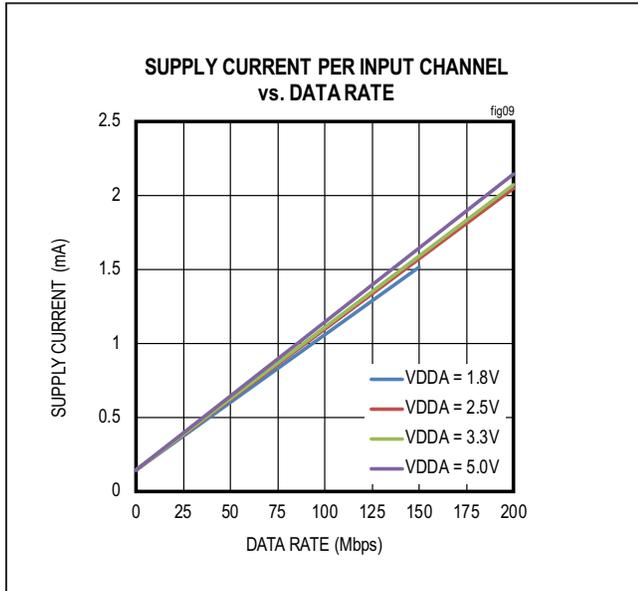
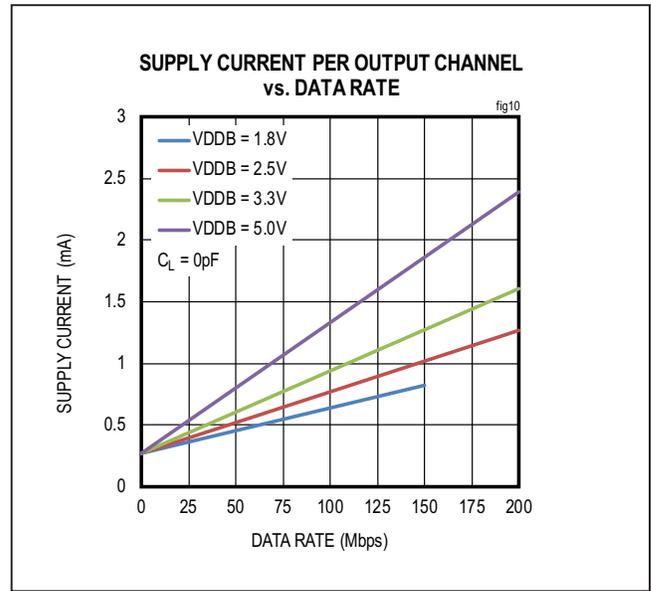

Figure 9. Supply Current Per Input Channel (Estimated)
Figure 10. Supply Current Per Output Channel (Estimated)
The required current for a given supply (VDDA or VDDB) can be estimated by summing the current required for each channel. The supply current for a channel depends on whether the channel is an input or an output, the channel’s data rate, and the capacitive or resistive load if it is an output. The typical current for an input or output at any data rate can be estimated from the graphs in Figure 9 and Figure 10. Please note that the data in Figure 9 and Figure 10 are extrapolated from the supply current measurements in a typical operating condition.
The total current for a single channel is the sum of the “no load” current (shown in Figure 9 and Figure 10) which is a function of Voltage and Data Rate, and the “load current,” which depends on the type of load. Current into a capacitive load is a function of the load capacitance, the switching frequency, and the supply voltage.
- Channel 1 is an input channel operating at 2.5V and 20Mbps, consuming 0.33mA, estimated from Figure 9.
- Channel 2 and 3 are input channels operating at 2.5V with DC signal, consuming 0.14mA, estimated from Figure 9.
- Channel 4 is an output channel operating at 2.5V and 100Mbps, consuming 0.77mA, estimated from Figure 10.
- Channel 1 is an output channel operating at 3.3V and 20Mbps, consuming 0.40mA, estimated from Figure 10.
- Channel 2 and 3 are output channels operating at 3.3V with DC signal, consuming 0.27mA, estimated from Figure 10.
- Channel 4 is an input channel operating at 3.3V and 100Mbps, consuming 1.11mA, estimated from Figure 9.